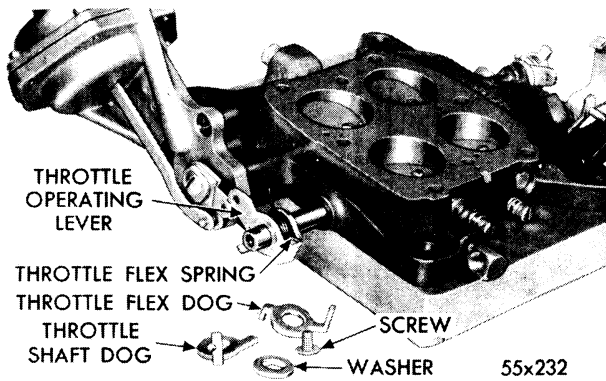
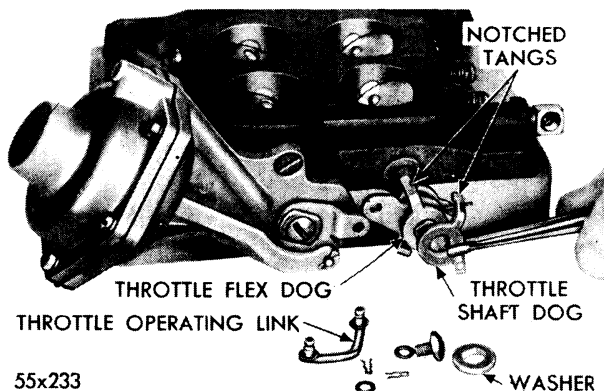

Fig. 19—Installing Throttle Flex Spring and Operating Lever
Fig. 20—Installing Throttle Shaft Dogs
- (17) Slide the flex spring into position in the throttle operating lever and over end of primary shaft. Be sure the lever arm is toward the secondary shaft as shown in Figure 19.
- (18) Slide the throttle flex dog over shaft and down against operating lever. Slide the throttle shaft dog over shaft and down against flex dog.
- (19) Install washer and screw, then tighten securely. (Be sure the notched tangs are pointing toward the throttle body; see Fig. 20.)